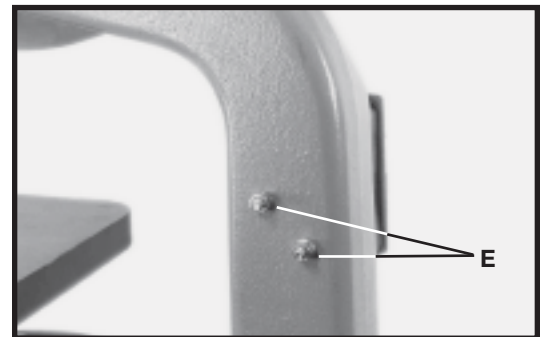

Fig. 14
3. Use the two nuts and lockwashers (E) Fig. 14, removed in STEP 1, to fasten the switch box to the bandsaw arm (Fig. 14).